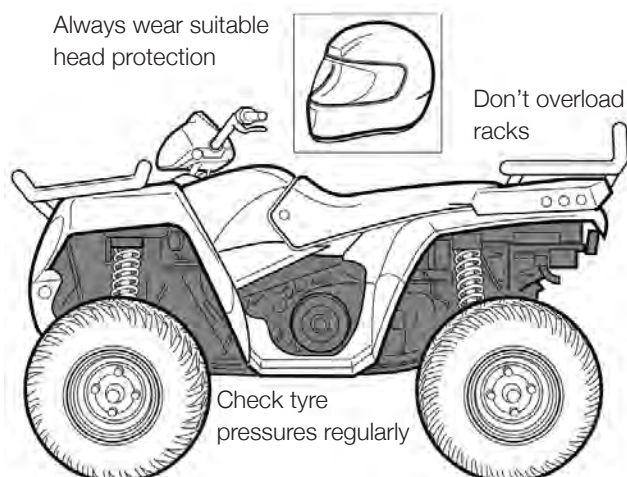

Figure 1 Example of a sit-astride ATV
- **Sit-astride ATVs:** Any motorised vehicle designed to travel on four low-pressure tyres on unpaved surfaces, with a seat designed to be straddled by the operator and with handlebars for steering control (see Figure 1). These vehicles are intended to be used by a single operator without a passenger. They may also be referred to as quad bikes.